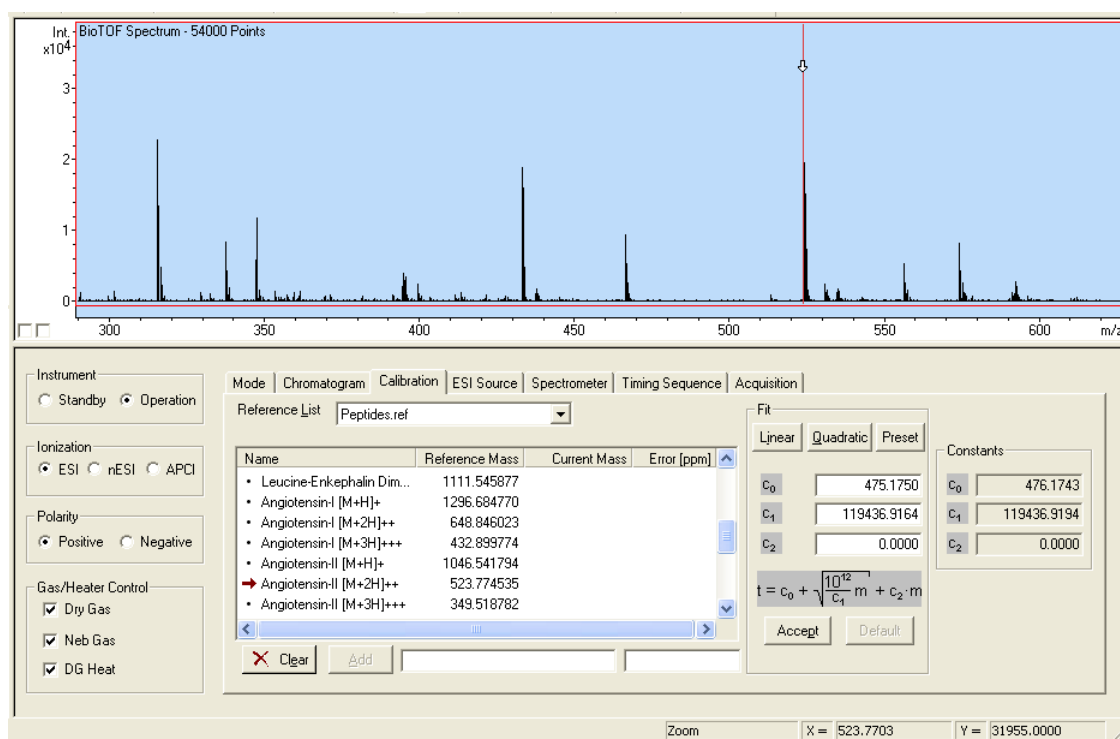

Figure 9-2 Calibrating the BioTOF System
4. Select the first known sample used in acquiring the spectra (Angiotensin II in Figure 9-2).